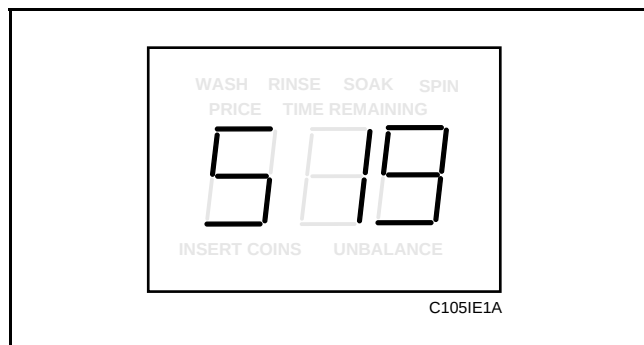

Figure 76
2. While pressing and holding the PERM PRESS keypad with one hand, press the COLD keypad with the other hand. Programmable option number one, “Slg”, will appear in the VFD. See **Figure 76**.